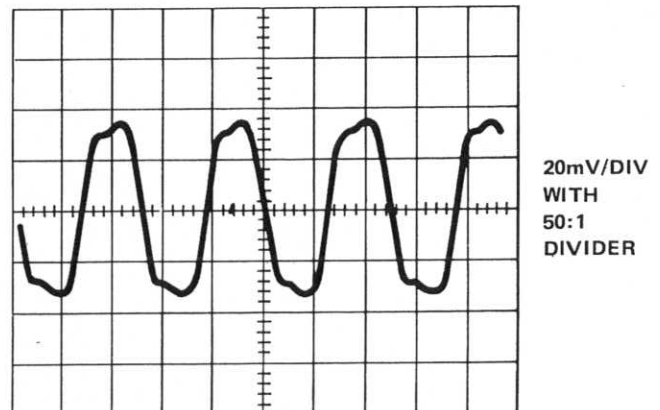

Figure 5-3 Typical 20MHz Output
5. Check that the output is a pulse train at the same frequency as the input. A typical example is shown in Figure 5-3.